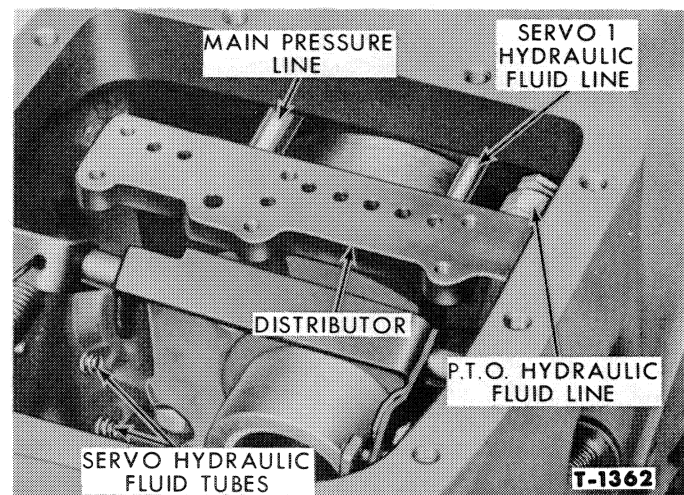

Figure 92—Fluid Distributor Mounted in Position
11. Disconnect the fitting that attaches the P.T.O. hydraulic fluid line to the distributor, as shown in Figure 92, and remove the four distributor attaching bolts.